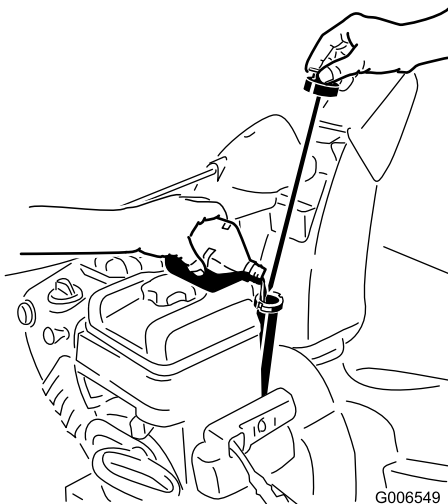

Figure 44
2. Remove the dipstick and check the oil level (Figure 44). If the oil level is below the Add mark on the dipstick, add oil. Refer to (page).